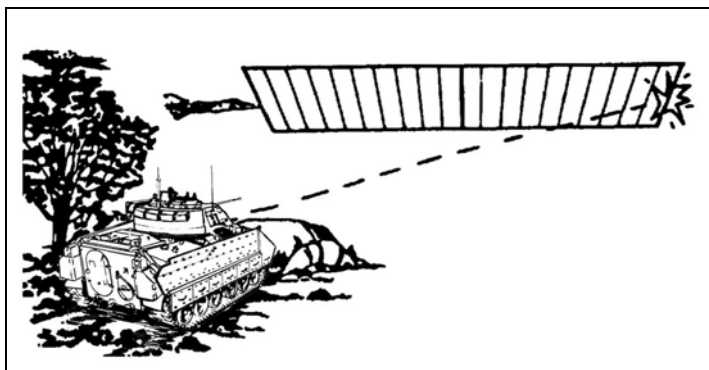
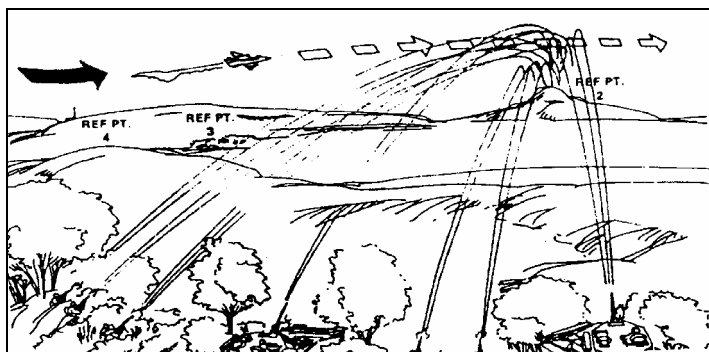

Figure 6-50. Football-field technique.
Figure 6-51. Reference-point technique.
d. Ideally, when the BFV must engage high-speed aircraft, mounted and infantry rifle elements fire small-arms weapons fire and controlled coaxial machine gun fire on a designated point. The platoon leader or platoon sergeant can initiate this type of fire by issuing a predetermined command or by firing tracers to indicate the target. He applies a 200-meter lead (the length of two football fields) on the approaching aircraft, so that the aircraft will fly through the platoon's cone of fire. Gunners must not try to track high-speed aircraft--they fly too fast (Figure 6-50).
(1) If the aircraft flies directly at the vehicle, the Bradley gunner fires a controlled burst of 50 to 100 rounds. He selects an aiming point slightly above the nose of the aircraft, so that the aircraft will fly into the cone of fire.
(2) Fixed-wing aircraft operate in pairs or in groups of three. Rotary-wing aircraft operate in platoon-sized elements.
(3) To engage high-speed aircraft, the BC chooses one or more reference points (Figure 6-51). For example, the platoon leader alerts the platoon. Then, as the aircraft nears a reference point, the platoon leader orders ENEMY AIR, REFERENCE POINT TWO, then FIRE. The Bradley and rifle infantry soldiers fire all weapons at a 45-degree angle above the reference point.